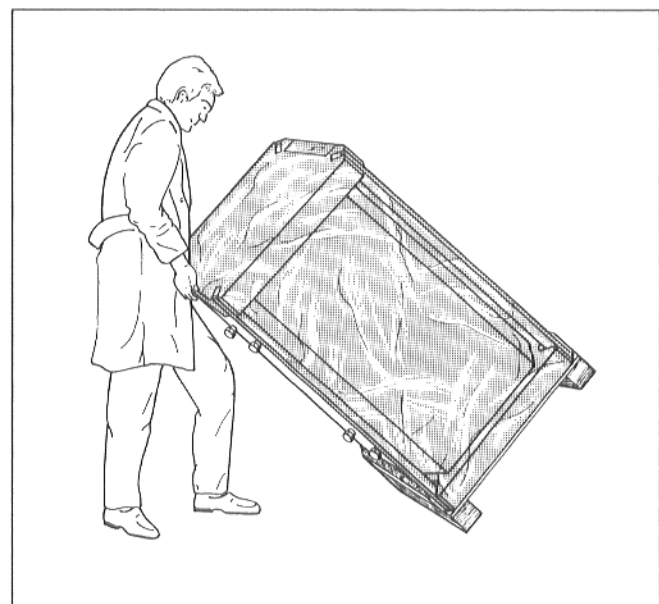

Fig. 18
- Tilt the storage tank over the edge of the pallet and lift it into an upright position (Fig. 18).